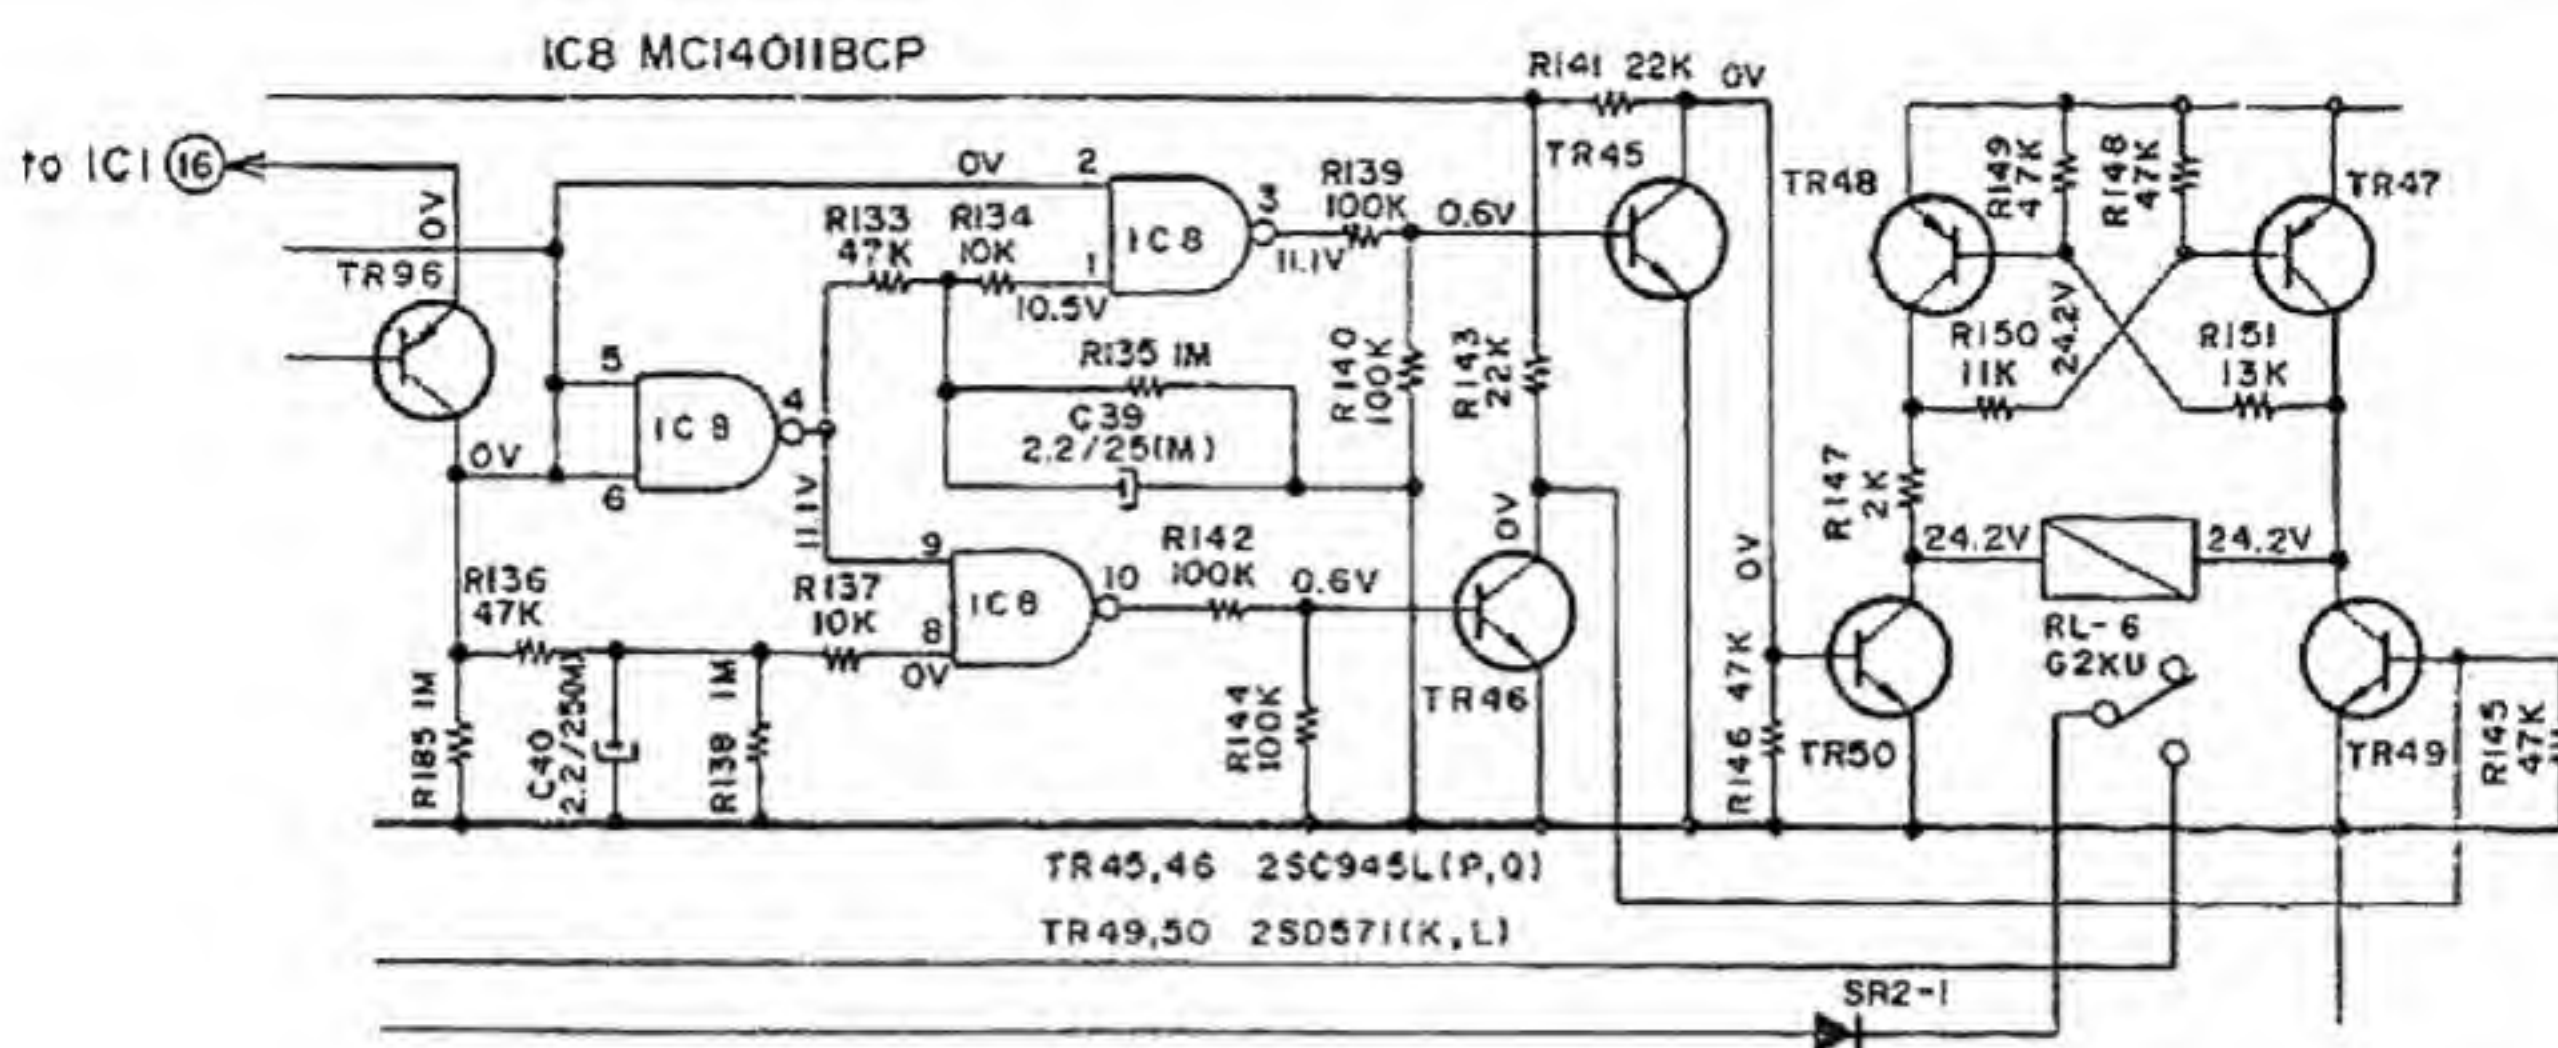

Fig. 27
- (h) Reverse Holding Circuit (Refer to Fig. 27)